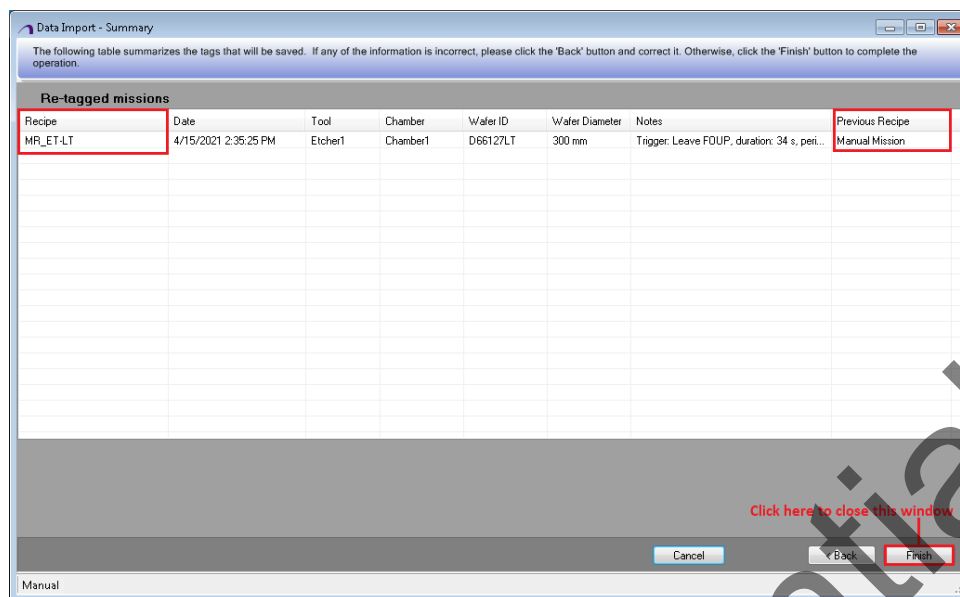

Figure 7-3 Data import – Summary
5. You can see the **Data Import - Summary** window opens and contains the list of all data tags that were Re-tagged, as shown in Figure 7-3.